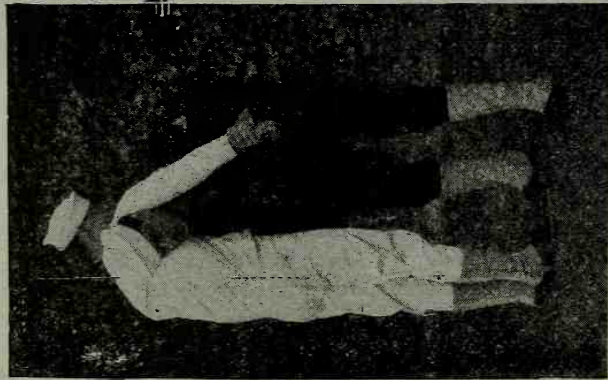
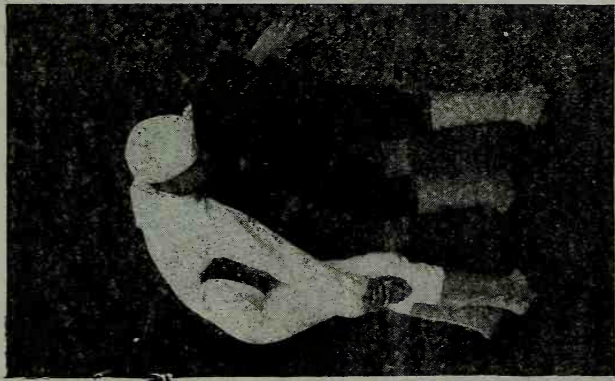
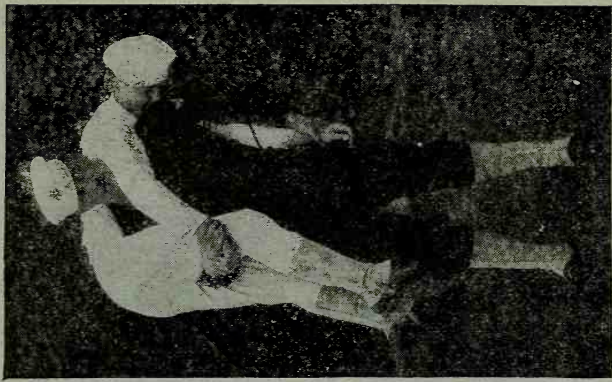

Fig. 28-16—Across-back carry. Completion of first step.
Fig. 28-17—Across-back carry. Completion of second step.
Fig. 28-18—Across-back carry. Final step.
(2) *Across-back carry*.—The method of getting the injured man upon your back in the proper manner is as follows: Lift the wounded man erect, or as nearly so as practicable, as in *In-arms carry*. Seize his right wrist with your left hand and draw his right arm over your head and down upon your left shoulder, leaving your right hand free. (See Fig. 28-16.) Then shift yourself in front of the man, stoop, sustaining part of his weight upon your shoulders and back, thrust your right hand and arm between his legs, clasp his right thigh with your right arm. Shift his right wrist to your right hand. Now grasp his left hand with your left hand. (See Fig. 28-17.) As you stand up, steady his left hand against your side. (See Fig. 28-18.)